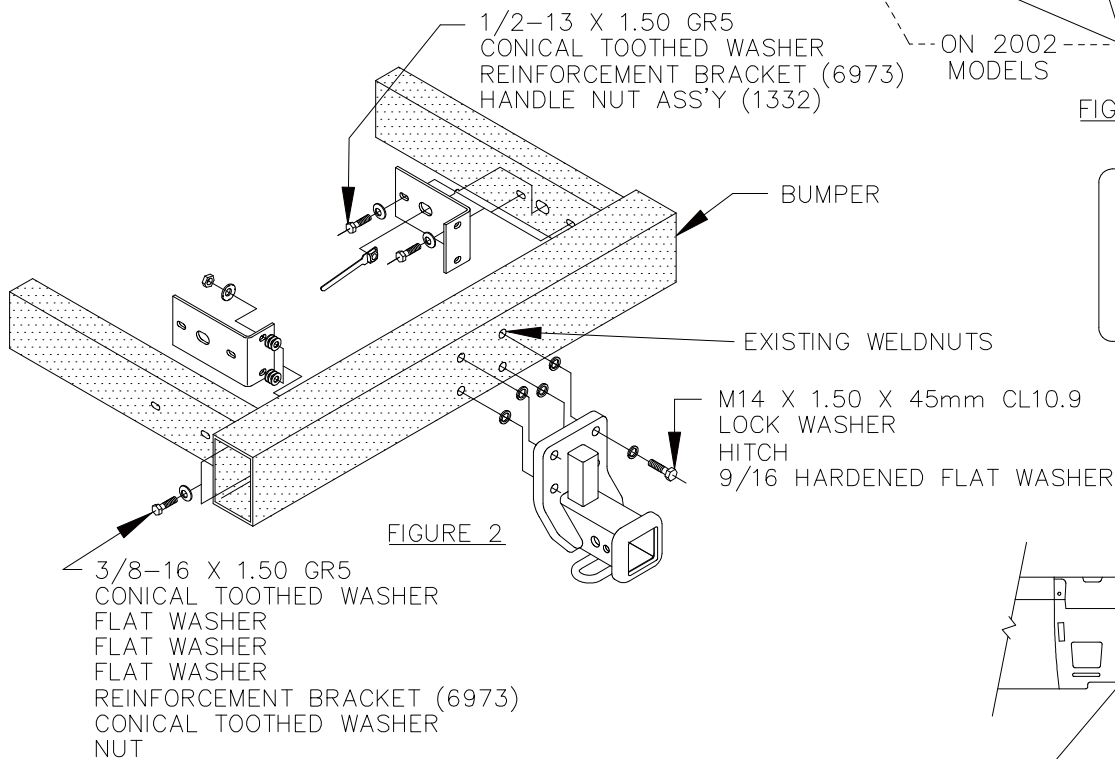

FIGURE 2
3. INSTALL HITCH AND REINFORCEMENT BRACKETS AS SHOWN IN FIGURE 2. (ON 2002 AND LATER MODELS TRIM FASCIA AS SHOWN IN FIGURE 3).